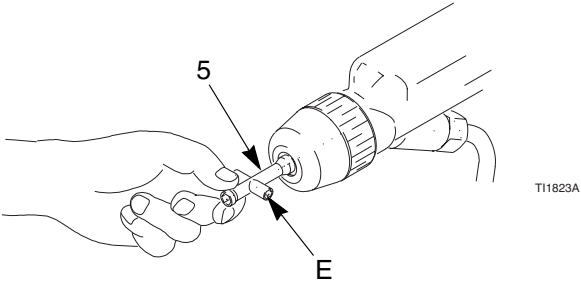

Fig. 3. Tighten the Spray Tip
5. Install the spray tip (4) and tighten it using the wrench (5) provided. See Fig. 3. When tightening, only grip the end of the wrench with your fingers; do not grip the wrench cross-arms (E).